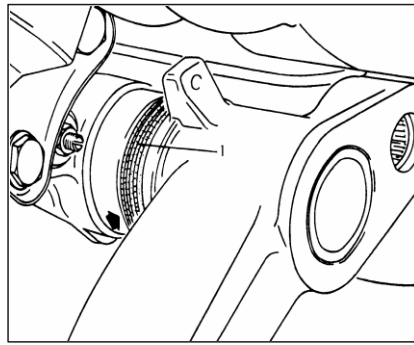

Figure 4-32 Install Rear Rocker arm Axle
(3) Lubricate the rocker arm axle journal and the needle bearing spacer ring with TOTAL MULTIS plate (special service tool) grease, put the rear rocker arm axle into the rear axle tube until the oil seal touches retaining ring, as shown in Figure 4-32.